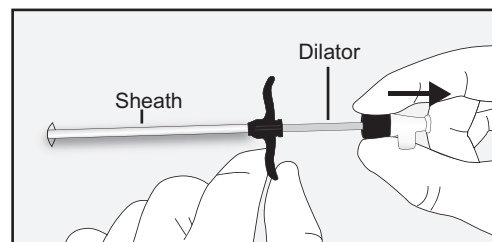

Figure 21: Slowly Pull the Dilator from the Sheath
- Slowly pull the dilator from the sheath without moving the sheath. (See Figure 21). Keep the dilator in the sterile field.